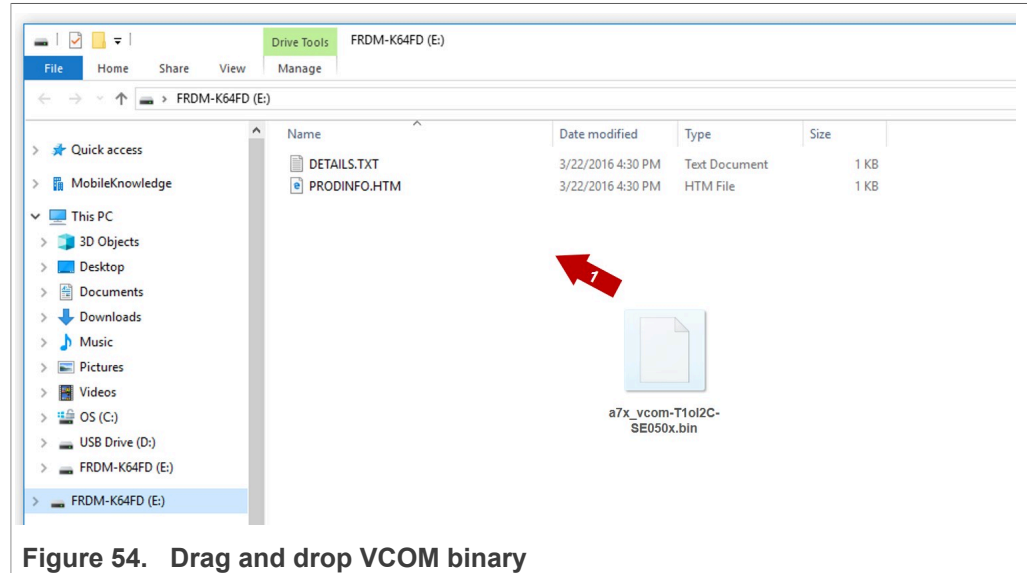

Figure 54. Drag and drop VCOM binary
4. Drag and drop or copy and paste the `a7x_vcom-T1oI2C-frdmk64f-SE050x.bin` file into the FRDM-K64F drive from your computer file explorer as shown in Figure 54: